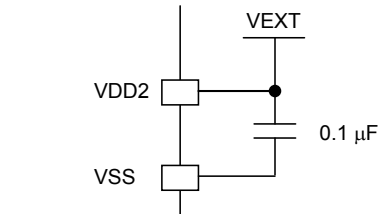

Fig. 2
- When the external supply voltage VEXT = 1.8 V to 3.6 V, connect VDD2 to VEXT directly as shown in Fig. 2.